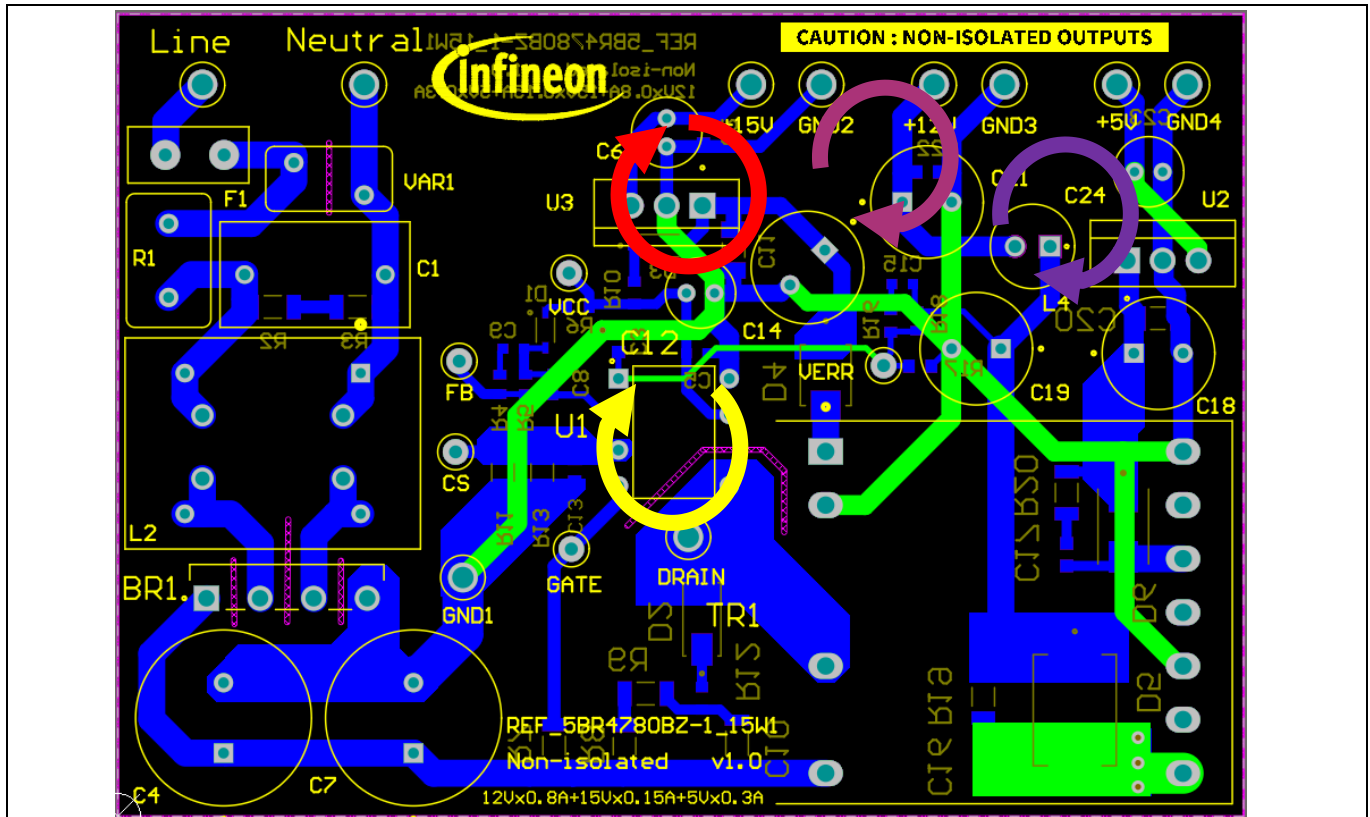

Figure 5 PCB layout recommendations
- The switching power loop needs to be as small as possible (see Figure 5). There are four power loops in the reference design; one on the HV side and three on the output side. The HV loop starts from the bulk capacitor (C7) positive terminal, the primary transformer winding, CoolSET™, CS resistors and back to the C7 negative terminal. The first output side loop (12 V output) starts at the transformer winding (pin 8), output diode (D5), output capacitor (C19) and back to pin 10 of TR1. The second output loop (8 V output) starts at the transformer winding (pin 12 of TR1), output diode (D6), output capacitor (C18) and back to pin 14 of TR1. The third output loop (18 V output) starts at the transformer winding (pin 2 of TR1), output diode (D4), output capacitor (C14) and back to pin 1 of TR1.